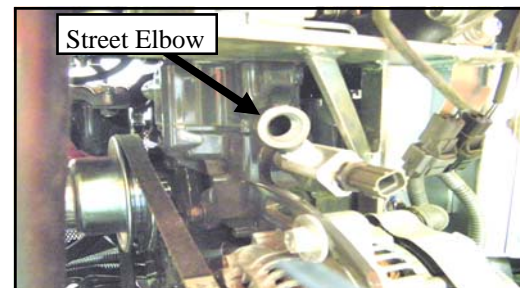

FIG. 2.3
- 2.3 Per figure 2.3, install the 3/8" NPT street elbow and hose nipple into the side port of the adaptor with Teflon tape (not provided).